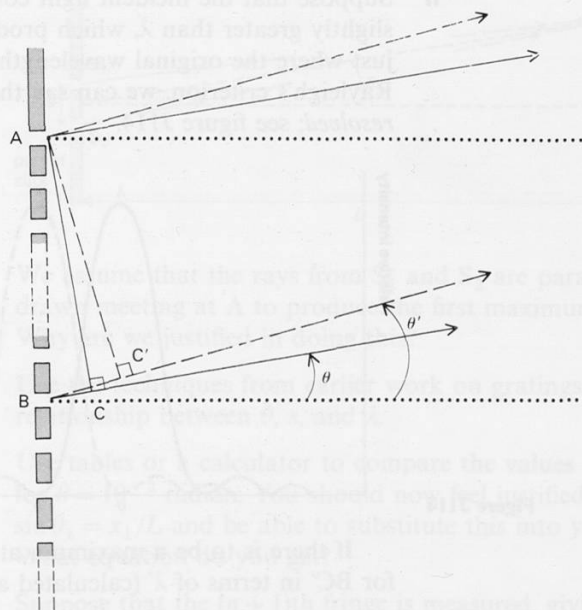

Figure J112
- e Now consider waves emerging at a slightly larger angle, θ' , with the condition that path difference $BC' = BC + \lambda/2$, as shown in figure J112. What is the path difference (in terms of λ) between waves from the 1st and 5001st slit now?